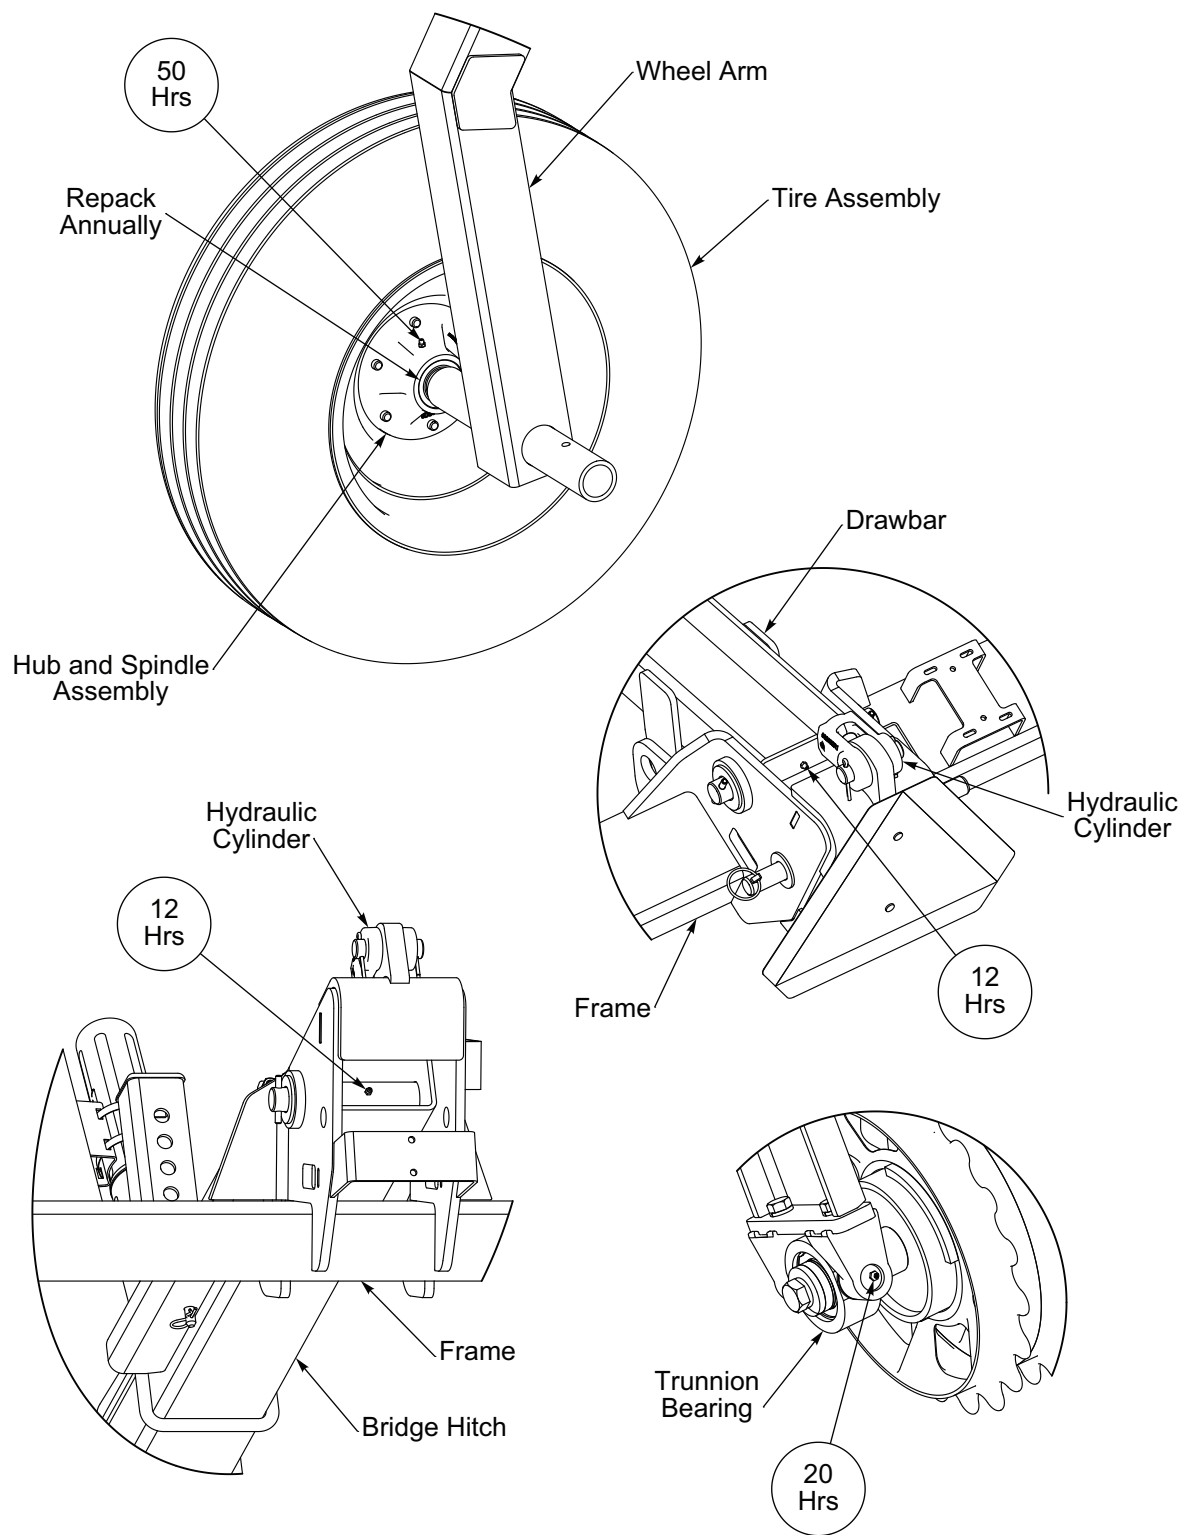

Figure 4-2: Lubrication Intervals
- Grease Trunnion Bearings every 20 hours. **See Figure 4-2.**
- Grease Wheels Hubs every 50 hrs. **See Figure 4-2.**
- Grease Drawbar to Frame zerk fitting every 12 hrs. **See Figure 4-2.**